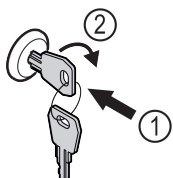

Fig. 74 Example illustration
- Insert key Fig. 74 (1).
- Turn key clockwise by 90° Fig. 74 (2).